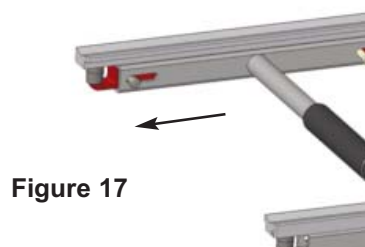
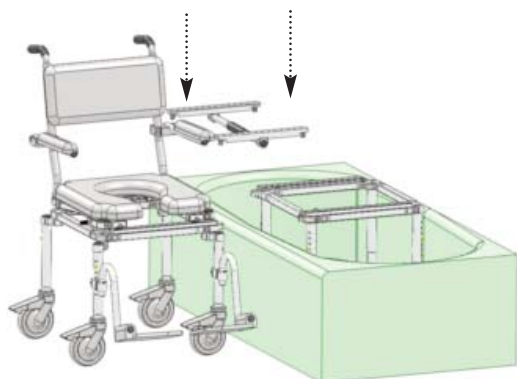

Figure 17
Figure 16
**E** Insert the connector bridge into the four eyelet holes (Two located on the roll-in section and two located on the tub section) - Refer to Figure 16. Switch the four shoulder screws to the lock position on the connector bridge (Refer to Figure 17).